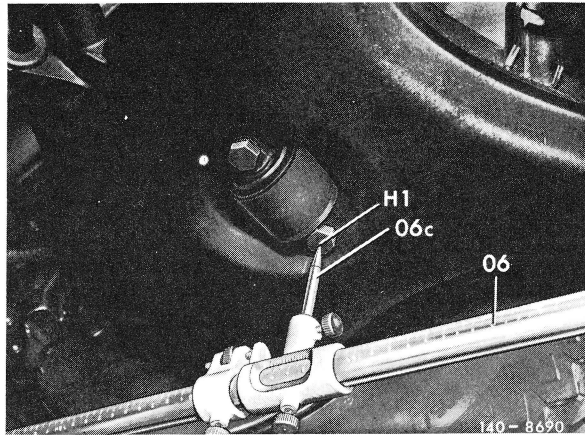

Fig. 11
5 Measure distance "H1" from check bore "K" to outer hex. screw of lower shock absorber suspension on semi-trailing arm left and right with beam compass, measuring length 2,500 mm (06) and measuring tips (standard equipment, 06c) (Fig. 11 and 12).